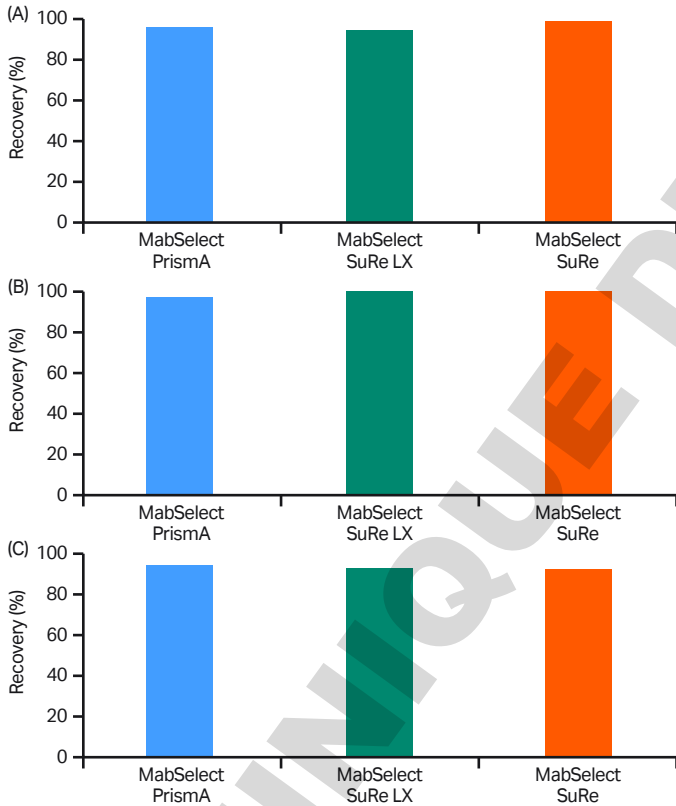

Fig 5. Recovery (%) of (A) mAb1, (B) mAb2, and (C) mAb3.
Purification performance of MabSelect PrismA was investigated and found to be similar to its predecessors MabSelect SuRe LX and MabSelect SuRe resins (2). Performance was evaluated with regards to mAb recovery; removal of host cell protein (HCP), host cell DNA (hcDNA), and mAb aggregates; as well as Protein A ligand leakage (Fig 5–10). In addition, MabSelect PrismA exhibits a similar elution pH profile as MabSelect SuRe LX (not shown). Table 2 shows the load to each resin for the results presented in Figures 5–10.